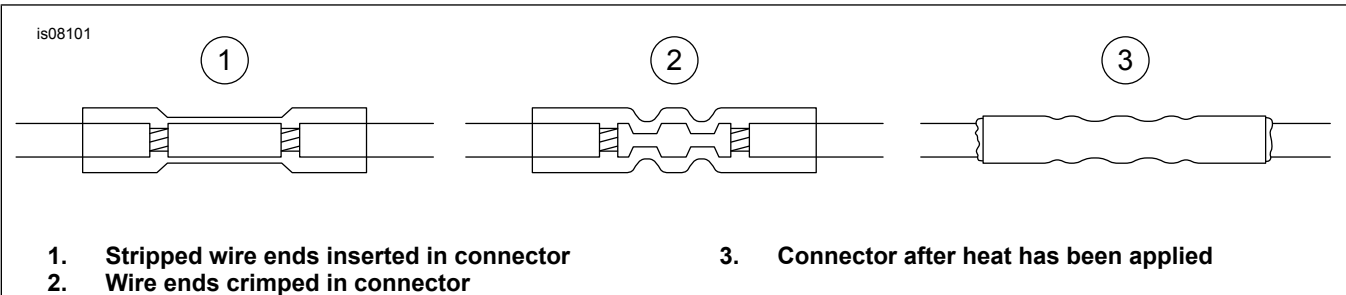

Figure 2. Install Sealed Butt Connectors
- f. See Figure 2. Insert each end into opposite ends of a butt splice connector (14).
- h. See Figure 2. Using the UltraTorch UT-100 (H-D 39969), Robinair Heat Gun (H-D 25070) with Heatshrink Attachment (H-D 41183), or other suitable radiant heating device, heat the crimped splice to encapsulate the butt splice connection. Apply heat from the center of the crimp out to each end until the meltable sealant exudes out of both ends of the connector.